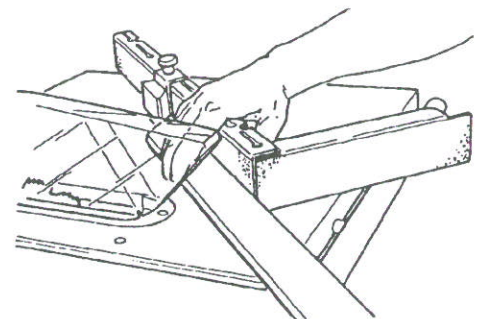
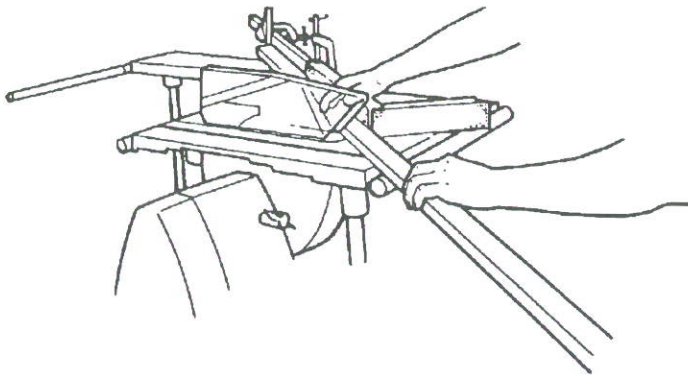

Fig.20
Fig.22
10. Line up the cut line on the workpiece with the blade's cutting line, then secure the stop block at the end of the stock. See Fig.20.
Fig.22 shows a scrap stop block clamped to the extension. Notice in Fig.22 that the complementary cut being made looks like Fig.20. It does because it IS alike-- except for Fig.22's extension-- since larger, longer projects follow the same instructions as the smaller picture frames.